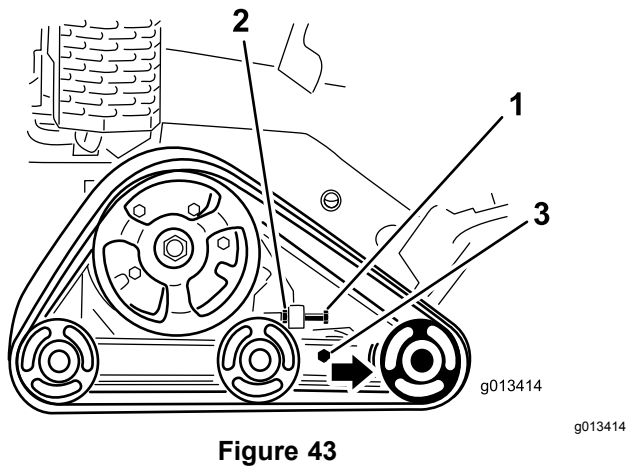

Figure 43
3. Loosen the jam nut on the track tensioning bolt and the clamp bolts on the tension arm (Figure 43).
4. Torque the tensioning bolt to 32.5 to 40 N·m (24 to 30 ft-lb) to tighten the track (Figure 43).
4. Back out the tensioning bolt and jam nut (Figure 43).
5. Loosen the clamp bolts (Figure 43).